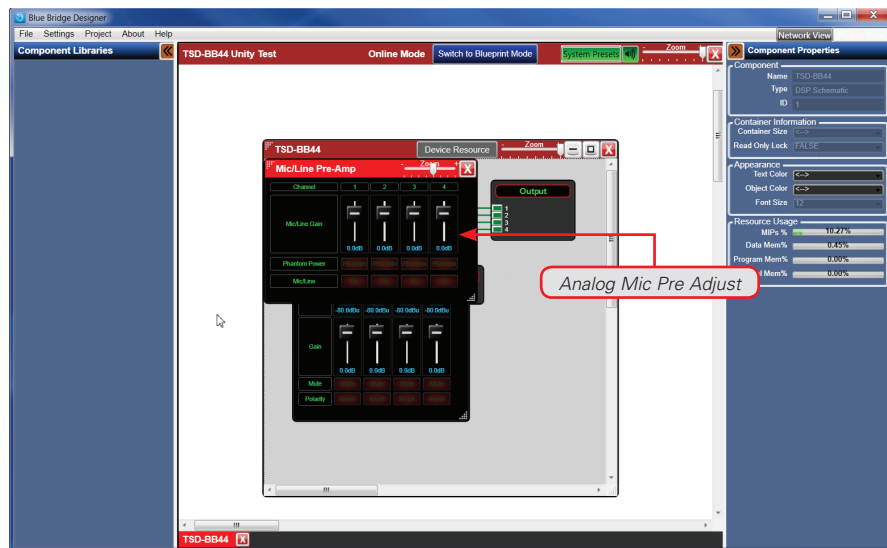

Figure 23
- Clicking the Mic/Line Pre-Amp Setup will launch a second window as shown in Figure 23.
- In this window you select Mic or Line Level, Phantom Power and fine tune Analog Mic/Line trim level as seen in Figure 23.